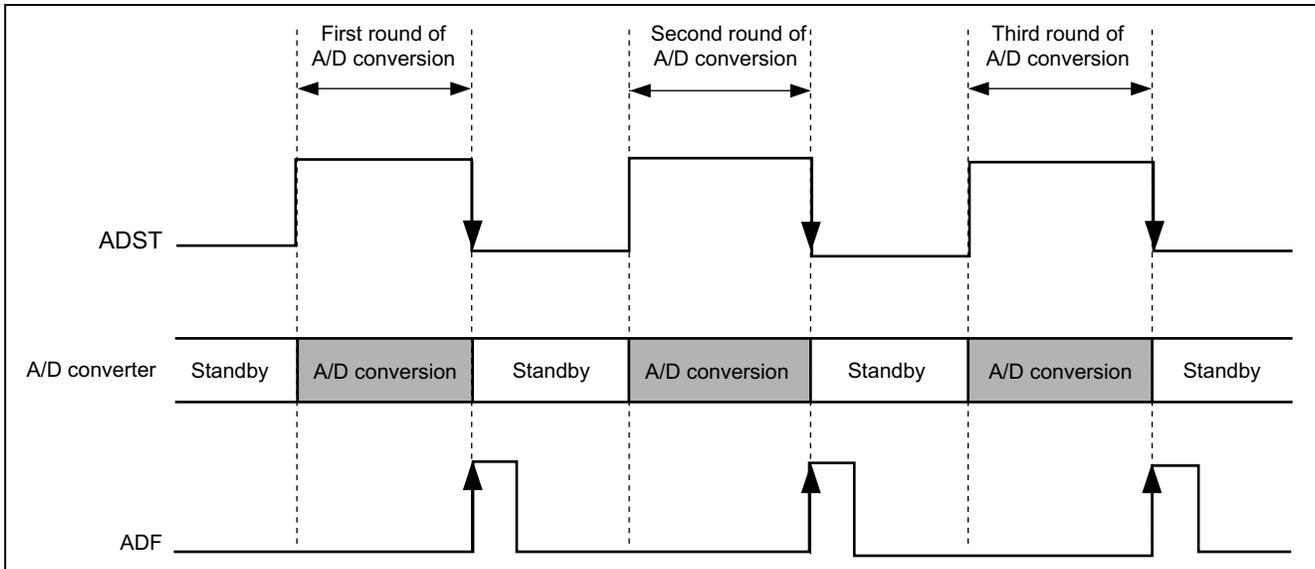
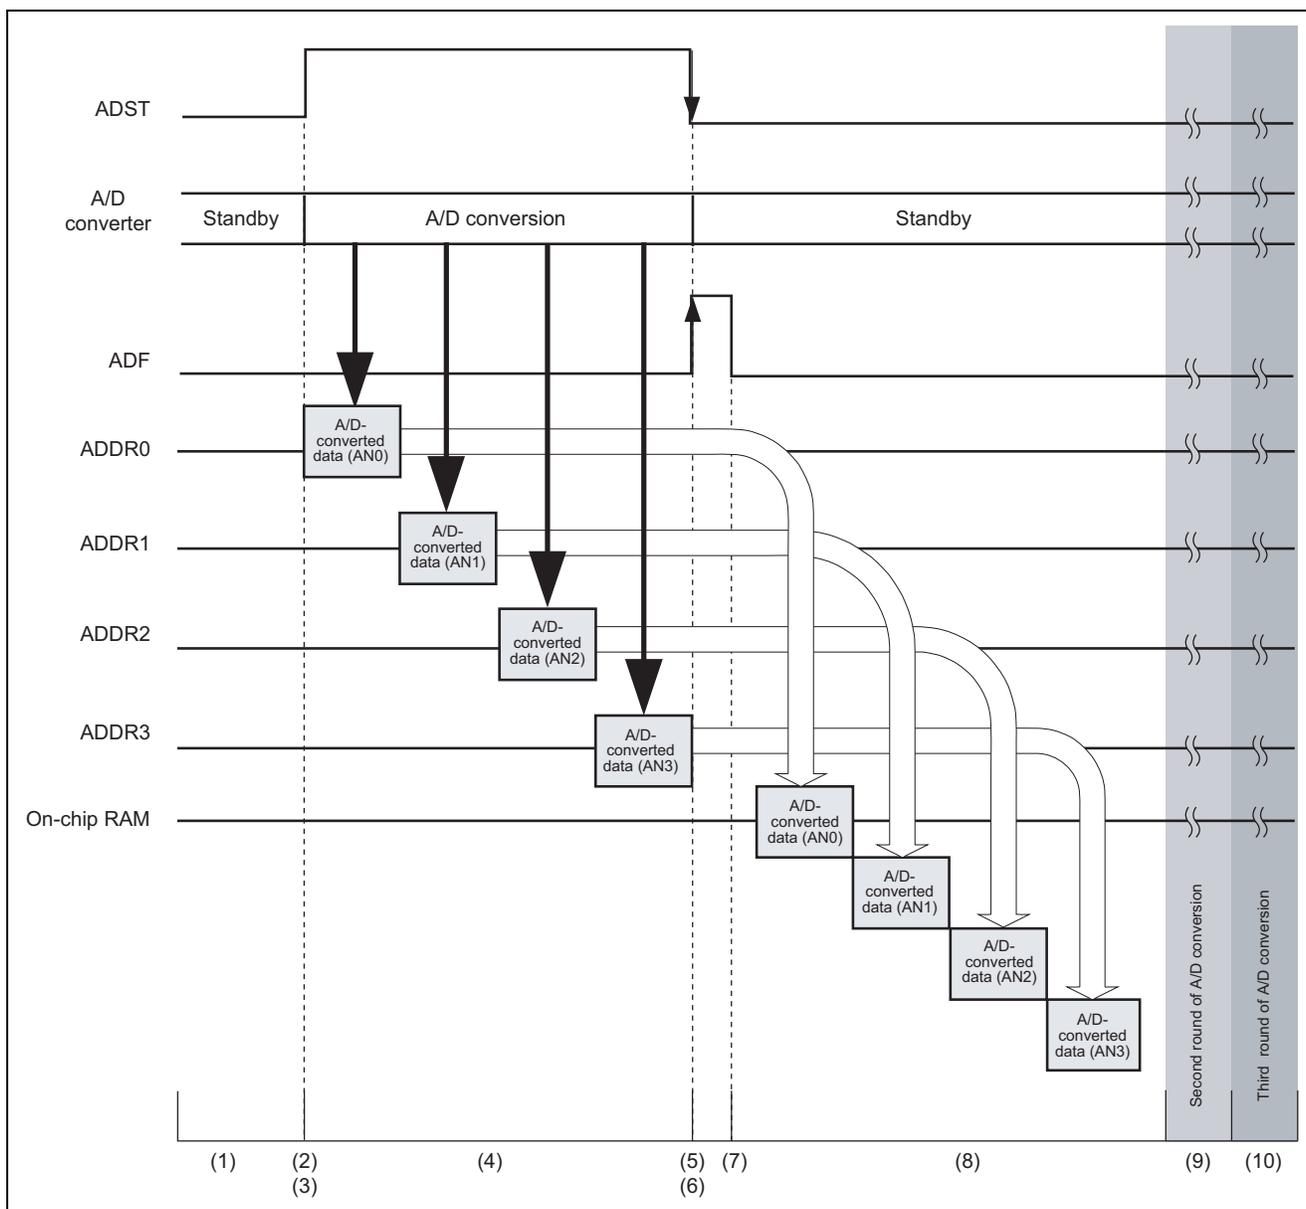

Figure 3 Operational Timing for A/D Conversion
Figure 4 Details on the Timing of A/D Conversion
In this sample application, A/D conversion is performed three times in single-cycle scan mode on each of analog input channels 0 to 3 (AN0 to AN3). Converted data are stored in the on-chip RAM on completion of each round of conversion on all channels. Figure 3 is a timing diagram of operations in this sample application.
A more detailed view of the timing is given in figure 4. Processing at the numbered points is described in table 3.
Firstly, the mode, channel, clock, etc., are selected with ADCSR\_0 and ADCR\_0 ((1) in figure 4).
Then, the ADST bit in ADCR\_0 is set to 1 to start A/D conversion (figure 4, (2) and (3)). At the end of each round of A/D conversion on all the channels (0 to 3), the converted data are stored in bits 15 to 6 of the corresponding register from ADDR0 to ADDR3 (figure 4, (4)). The ADF bit is set to 1 after conversion on all channels has been completed (figure 4, (5)). Also, the ADST bit is cleared to 0 (figure 4, (6)). In single-cycle scan mode, A/D conversion is performed only once on each specified channel (in this sample application, A/D conversion is performed once on each of the channels AN0 to AN3). After that, the ADF flag of ADCSR\_0 is cleared to 0 (figure 4, (7)) and data from all the four registers are stored in the on-chip RAM (figure 4, (8)).
Steps (2) to (8) shown in figure 3 are repeated twice (figure 4, (9) and (10)).